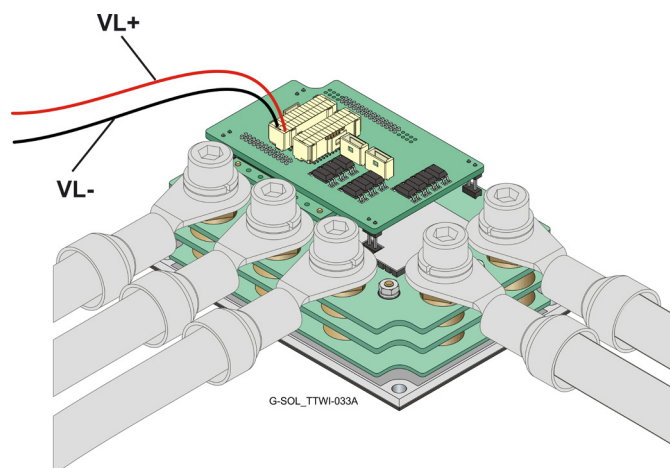

Figure 10: Connecting the Control Supply Wires
- Connect the VL+ and VL- wires to the terminals on the servo-drive as shown in Figure 10.